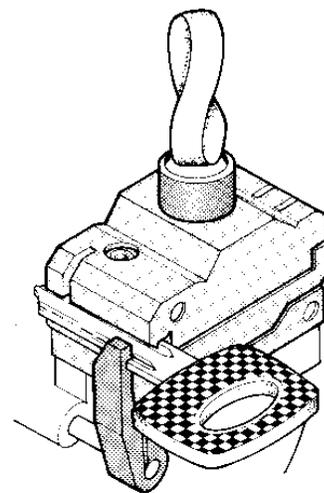

Fig. 4
For keys cut on both sides when you need to clamp by the groove on top of the key, the clamps must be placed upside down, as shown in Fig. 4. Insert the keys with the groove upwards, using the tooth of the upper jaw of the clamp guide.
- To cut keys with narrow shafts insert the pins between the bottom of the clamp and the key so that the balder protrudes sufficiently to be cut (Fig. 4/1).
The same procedure as that described in Fig. 4 applies when using pins.